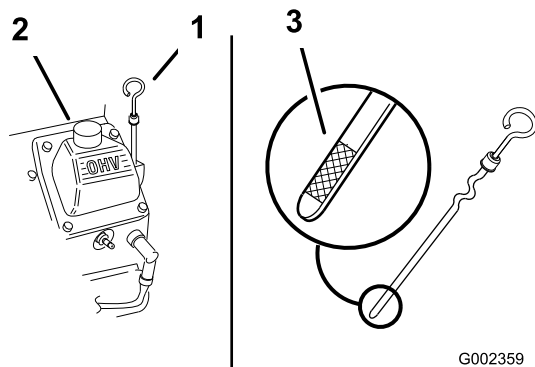

Figure 19
3. Clean around the oil dipstick (Figure 19) so that dirt cannot fall into the filler hole and damage the engine.
4. Unscrew the oil dipstick and wipe the end clean (Figure 19).
5. Slide the oil dipstick fully into the filler tube, but do not thread onto tube (Figure 19).
6. Slowly pour approximately 80% of the specified oil into the filler tube (Figure 19).